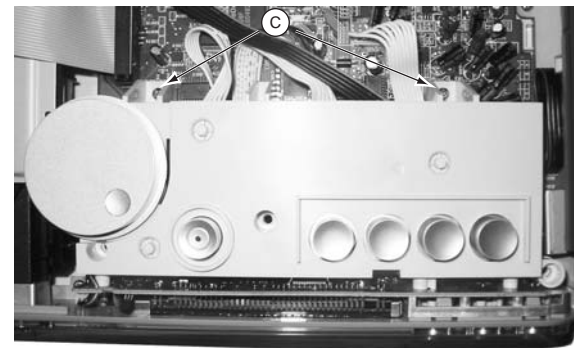

Figure 6
1) Loosen 2 screws "C" at the top of the button as shown in figure 6.